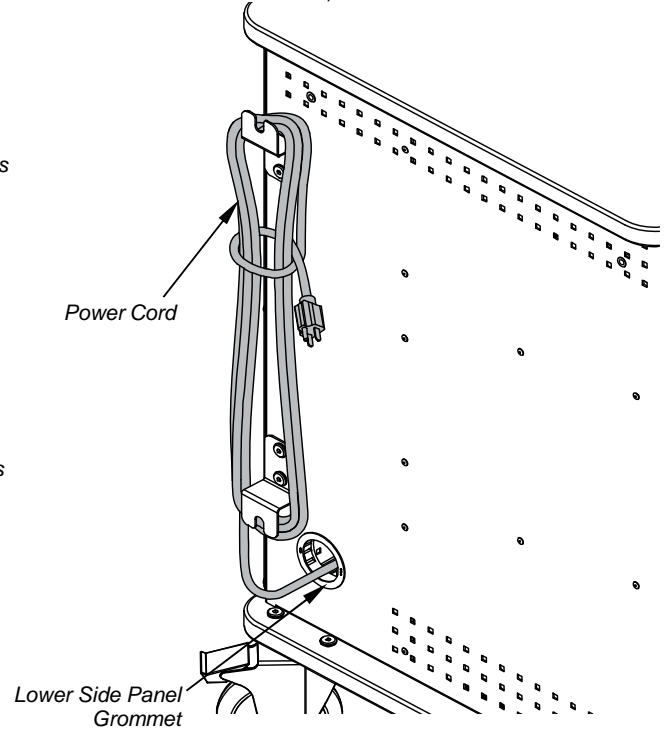

Figure 2B
- B. Route each power cord through each lower side panel grommet as shown in **Figure 2B**.